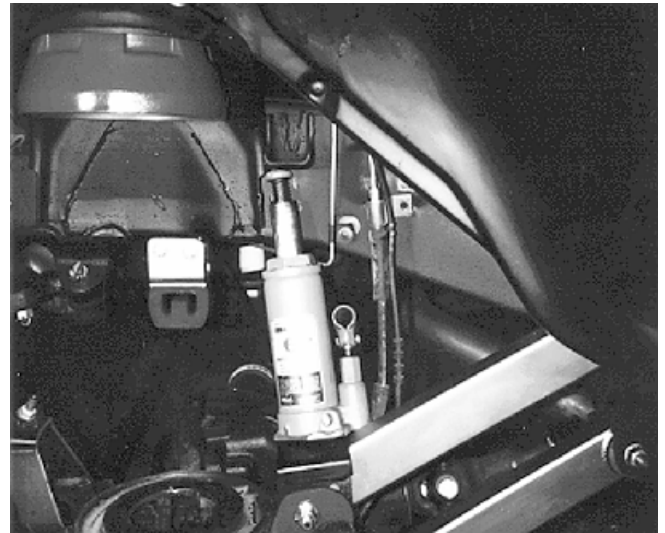

fig. 10
25. Carefully lower the floor jack and axle then place a bottle jack between the outer (unused) bump stops to assist in the re-installation of the springs. Extend the jack (**be careful not to stretch brake lines**) until there is just enough clearance to place the OEM STOCK springs between their original lower perch and the rubber isolator in the spring spacer. Refer to fig. 10
28. Place the upper shock mount # 104165 for the left side and the # 140164 for the right side of the vehicle on top of the spring pocket. Align the mounts so that the shock tabs point toward the rear of the vehicle and the three holes line up with those on the spring pockets. Refer to fig. 10